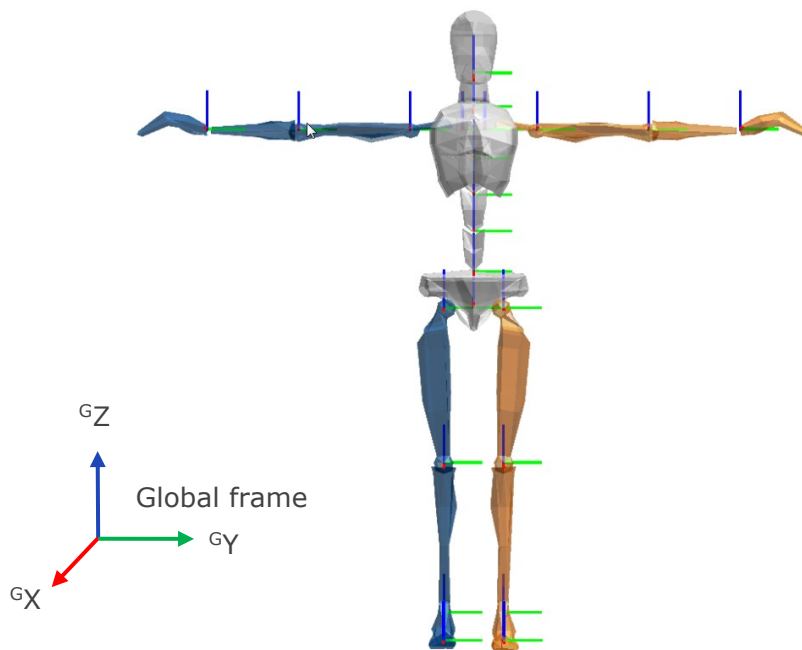

Figure 84: Segment coordinate system at each segment origin, as is used in MVN. Legend: **x: red**, **y: green**, **z: blue**
The axes of each body frame ( $B$ ) are aligned with this Global reference frame ( $G$ ) when the subject is standing in the T-pose as shown in Figure 84.
The section <segments> defines all positions (pos\_b) of connecting joints (prefixed with a "j") and anatomical landmarks (prefixed with a "p") with respect to origin of that segment (in body fame B). The body frame (B) of this list of points is defined by Figure 84.